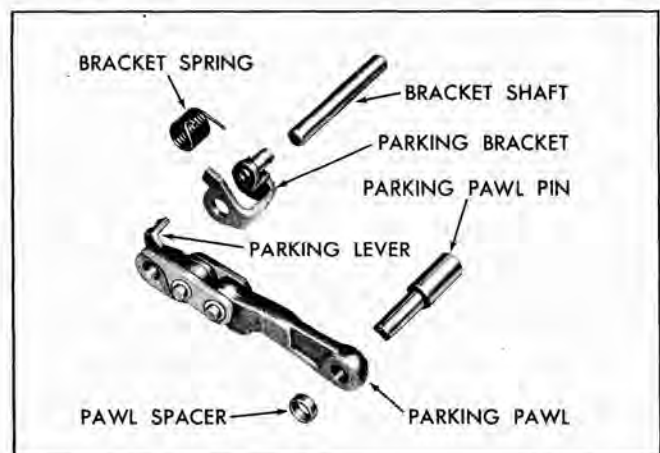

Fig. 100 Parking Brake Assembly—Exploded
2. Lift hook end of bracket spring off parking lever and disassemble parts (Fig. 100).